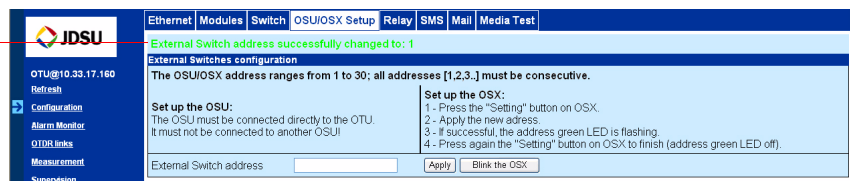

Fig. 56 OSU address successfully changed
- 9 Once valid (see Figure 56 on page 48), disconnect the OSU and plug the second OSU-9600, which will have the address 2, to the OTU-8000.